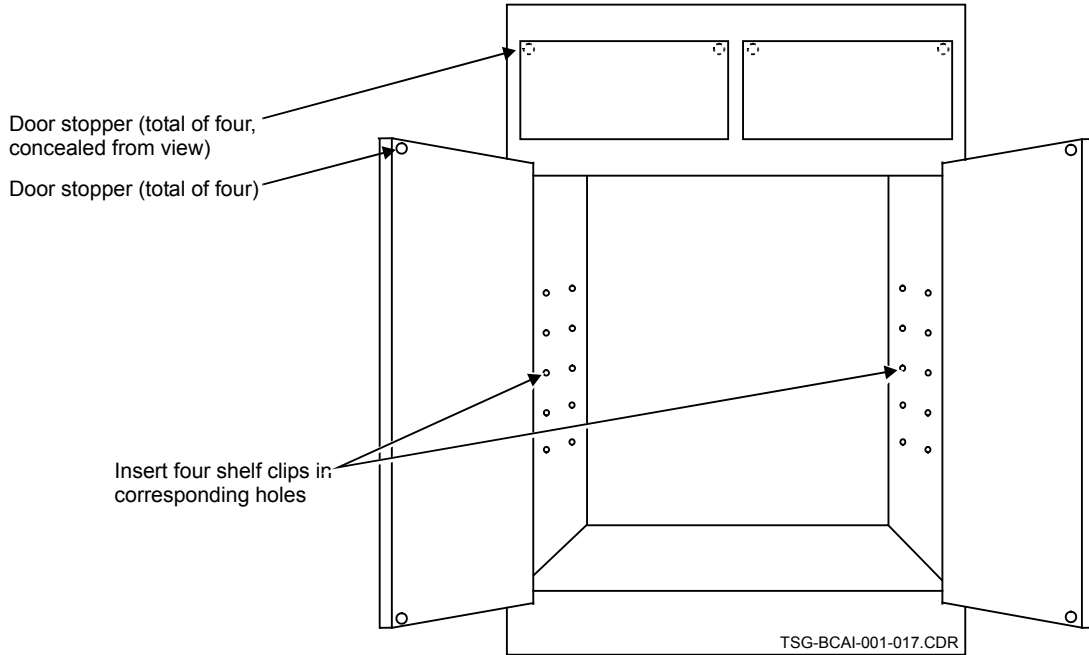

Figure 22 — Insert Four Shelf Clips inside the Corresponding Holes inside the Cabinet
- (12) Insert four shelf clips inside the corresponding holes inside the cabinet and then snap the shelf into place. (See Figure 22, shelf not shown.)
- (13) Again referring to Figure 22, place four door stoppers in the holes on the inside of the two doors (two each) and four door stoppers into the holes on each drawer (two each, concealed from view).
- (14) This concludes the drawers assembly procedure and the final steps to complete the base cabinet assembly.